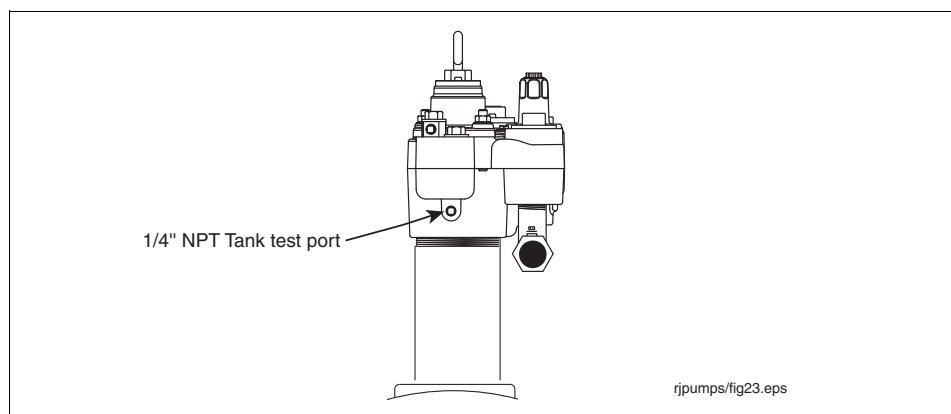

Figure 44. Tank Test Port On Manifold
2. Remove and save the 1/4 " NPT tank test port plug and attach tank testing equipment (see Figure 44).